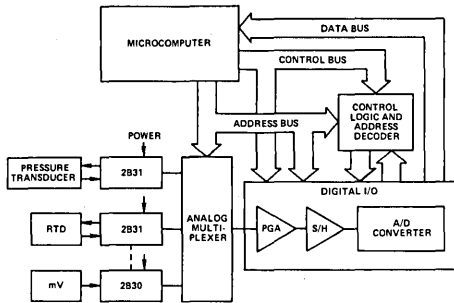

Figure 9. Use of the 2B30/2B31 in Data Acquisition System
**Data Acquisition System:** Figure 9 shows a typical application of the 2B30/2B31 in a low level, high speed microcomputer based data acquisition system. The advantages of this configuration are improvement in CMR enhanced by a low pass filter/channel provided by the 2B31, elimination of aliasing errors and crosstalk noise between input channels, improvement in system noise and resolution, and optimized, individual bridge excitation source for each channel.